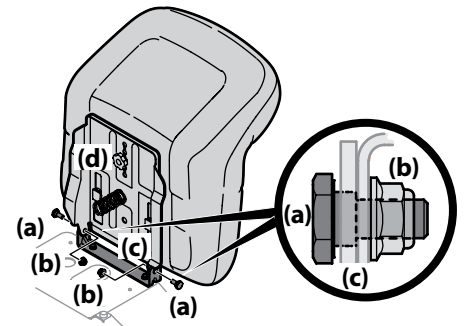

Figure 2-7
- Install the two shoulder bolts (a) and lock nuts (b) removed from the seat mounting bracket (c) in Step 1. See Figure 2-7.
- To adjust the position of the seat, loosen the adjustment knob (d) on the bottom of the seat. Slide the seat forward or backward as desired. Securely retighten the adjustment bolt (d). Refer to Figure 2-7.